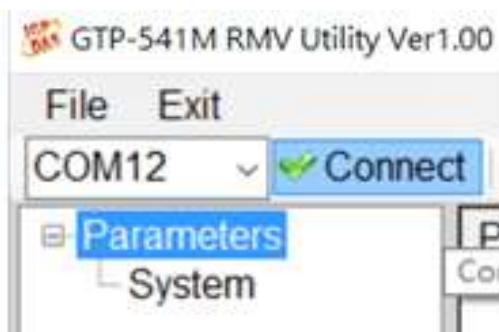
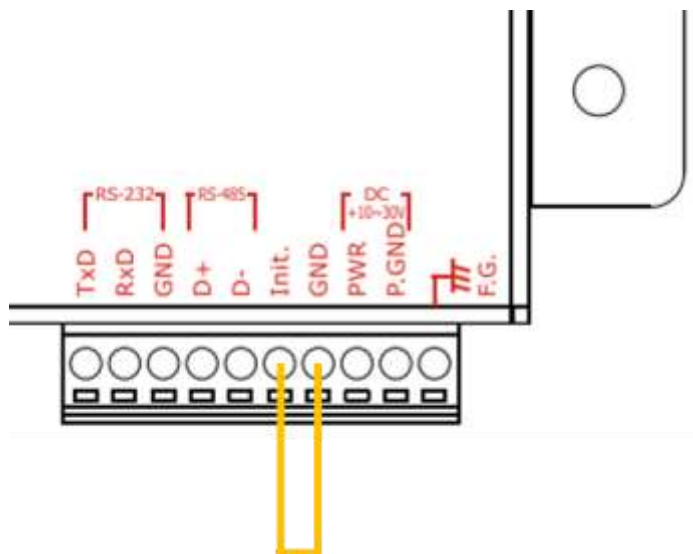

Figure 7.2.2
Figure 7.2.3
2. Press the “Connect” button to connect with the GTP-541M, as shown in Figure 7.2.2. If the cable fails, check if the RS-232/RS-485 Comport of the GTP-541M and the PC cable are selected correctly. Is the RS-232 / RS-485 line normal or whether the Init 4th and 5th pins are connected, as shown in Figure 7.2.3.